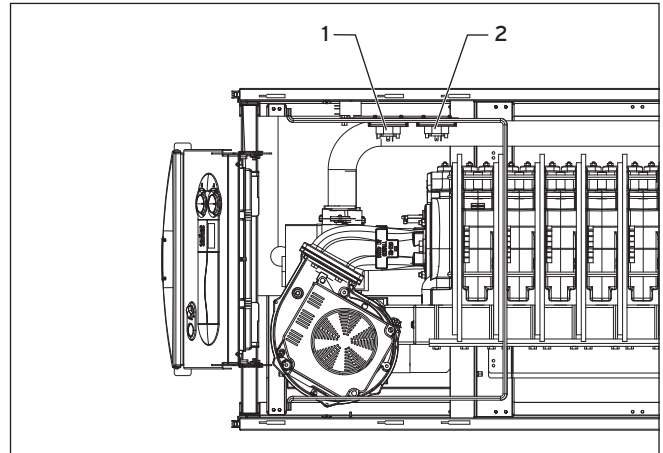

Fig. 8.4 Checking the flue gas pressure monitor
- Check the hoses to the combustion air pressure monitor (1) (see Fig. 8.4) for contamination and correct fit.